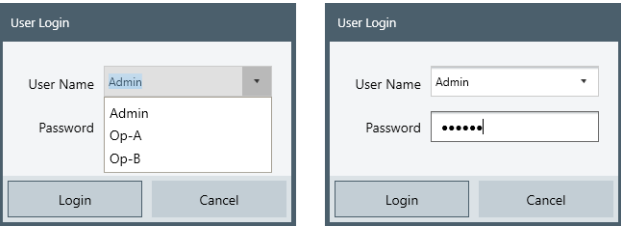

Figure 3-2: User login dialog
- The drop-down list (left in Figure 3-2) contains only the names of users that have already logged in during a previous session. If your user name is missing in the list, typically during your 1st login, you must type it in.